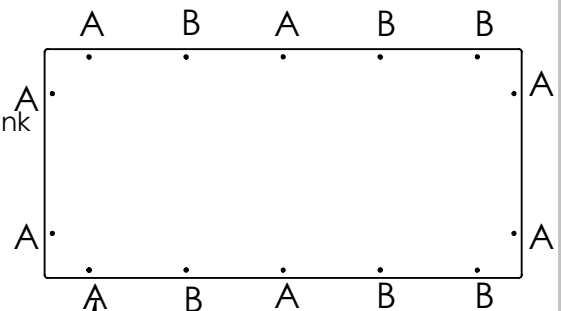

Fig.1
NOTE: The Restraint Rings can be located in any position on the bed, however, recommended locations are shown in (**Fig.1**)
4. Assemblies **without** Restraint Rings are to be located at positions indicated by "A" (**Fig.1**). Restraint Ring assemblies should be located at "B" positions.